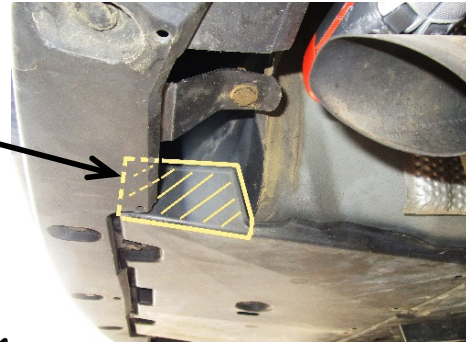

Figure 2
- Lower muffler** – Using an exhaust hanger removal tool, lower muffler by removing (1) rearmost rubber hanger, and (1) forward rubber hanger. A spray a lubricant or soapy water on rubber hangers makes them slide off metal pins more easily. **NOTE: Be sure exhaust is supported before removing rubber hangers.**
- Remove exhaust hanger bracket** – Using a 19mm socket, remove (2) bolts from exhaust hanger bracket on passenger's side. Save exhaust bracket and bolts to be reused for hitch installation.
- Remove underbody panel** – using a flat head screw driver and a 10mm socket, remove (6) plastic push-pin rivets, (1) hex nut, and unscrew (4) threaded panel fasteners from bottom of panel.
- Remove tie down bracket** - Using a 19mm socket, remove (2) bolts from tie down bracket on driver's side. Bolts to be used for hitch installation. Return tie down bracket to vehicle owner.
- Trim underbody panel** – using a tape measure, marker and utility knife, measure, mark, and trim the underbody panel as shown in **Figures 2 and 3**.
5a. Trim underbody panel – using a tape measure, marker and utility knife, measure, mark, and trim the underbody panel as shown in Figures 2 and 3.
5b. Trim underbody panel – using a tape measure, marker and utility knife, measure, mark, and trim the underbody panel as shown in Figure 2 and 3.